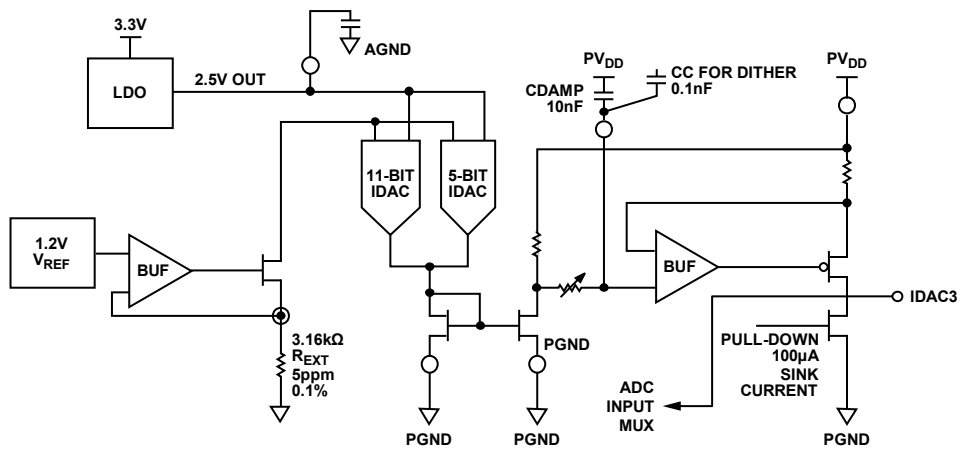

Figure 9. Example IDAC Circuit—IDAC3
Figure 9 shows the typical architecture of the IDAC. The parallel 11-bit and 5-bit IDACs set the output current scale. The output of these IDACs are summed together and fed to a current mirror and then are gained up at the output stage.
- The pull-down stage shown in Figure 9 is controlled by an 11-bit IDAC; the data register for this IDAC is IDAC6DAT, which allows the sink current to be set from 0 mA to 80 mA. When the current sink is enabled, the SOA pin voltage is pulled negative by the high voltage analog die to drain the current out of the SOA diode. To protect the SOA diode, an internal clamp circuit is in place to ensure that the voltage seen by the diode never drops below  $-3.5$  V. The absolute minimum pull-down voltage is  $-3.7$  V.